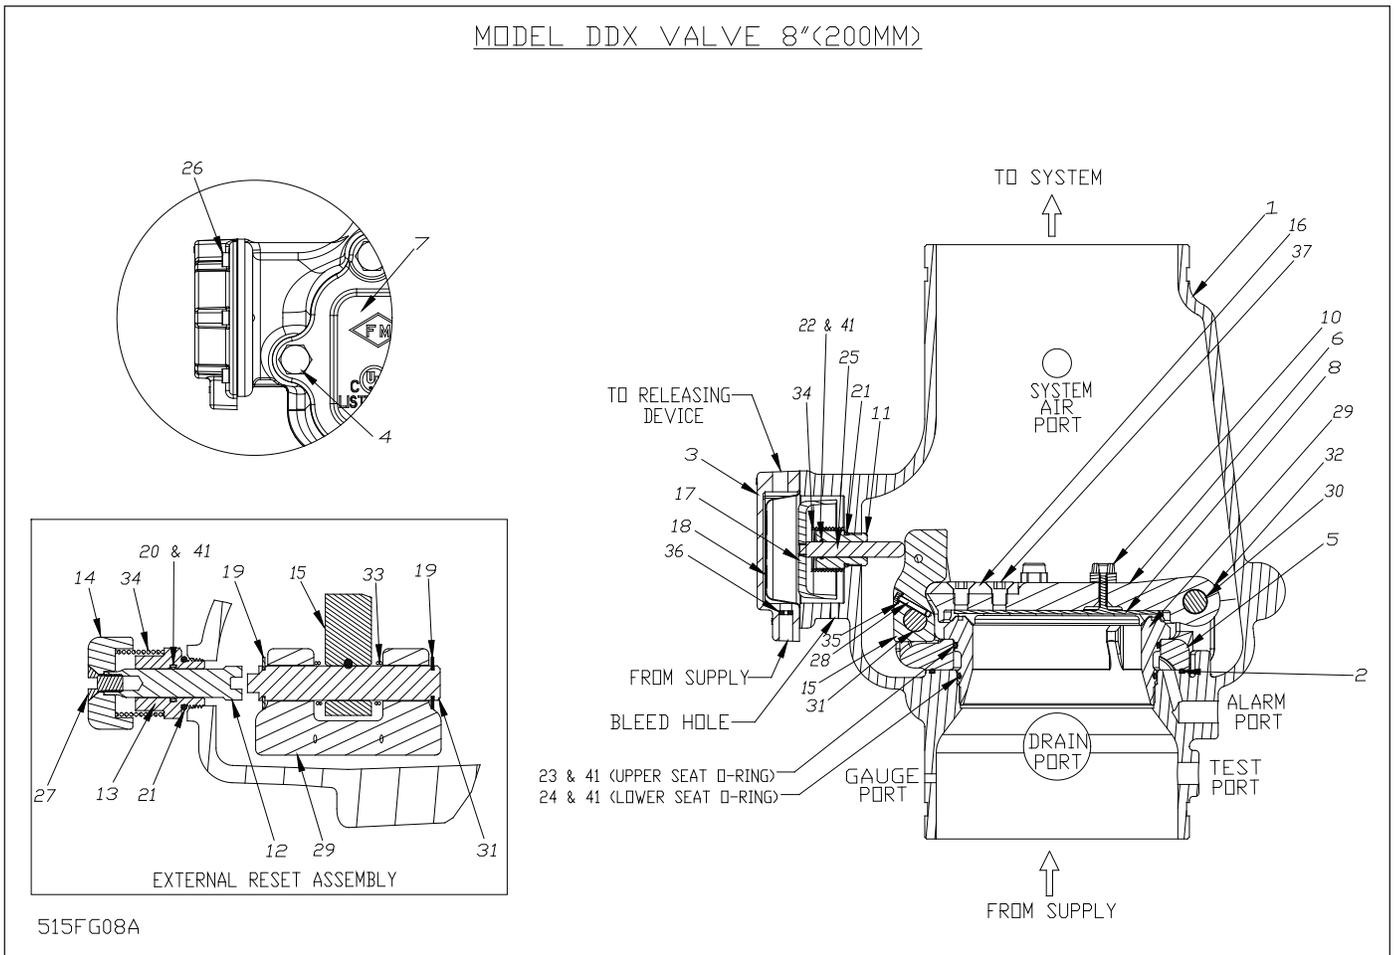
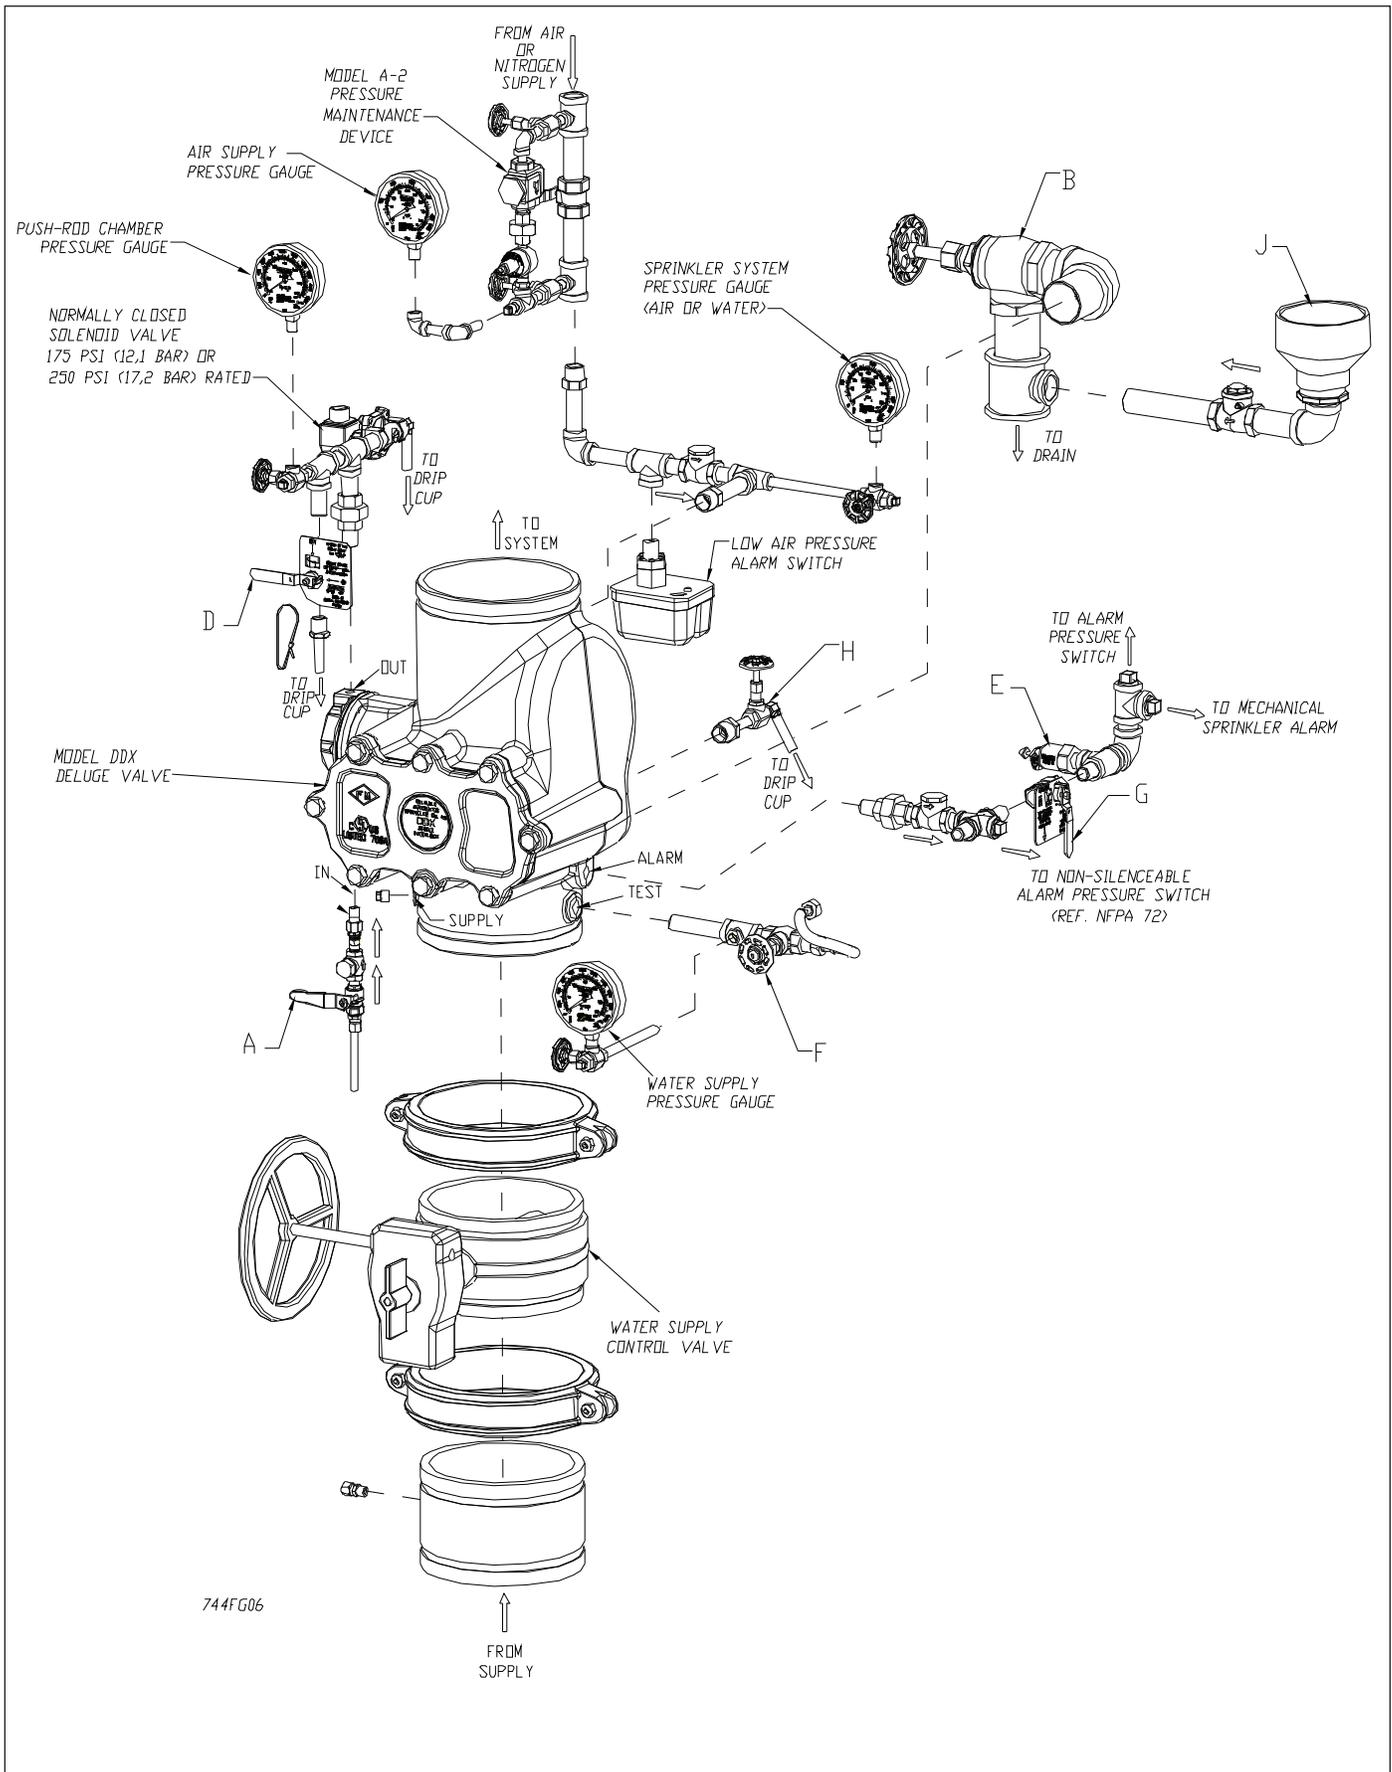

Fig. 5
Fig. 6
6. With the Model B Manual Emergency Station, valve D (Fig. 6), open, push in and rotate the Deluge Valve's external reset knob (#14, Fig. 5) clockwise until you hear a distinct clicking noise, indicating that the clapper has closed. **Note:** The reset knob can be rotated only while pressure in the pushrod chamber is vented to atmospheric conditions (0 psig).
2. **Alarm line** — be sure that valve G (Fig. 6) is opened and remains in this position.
3. **Other trimming valves** — check that valve A (Fig. 6) is open as well as all of the pressure gauge's 1/4" 3-way valves. Valves D, F, and H (Fig. 6) should be closed.
4. **Ball drip valve E (Fig. 6)** — make sure that valve G (Fig. 6) is open. Push in on the plunger to be sure the ball check is off its seat. If no water appears, the Deluge Valve's water seat is tight. Inspect the bleed hole (see Fig. 5) on the underside of the pushrod chamber for leakage.
Model DDX 8" (200mm) Deluge Valves Parts List (Refer to Fig. 5)
6. **Releasing device** — check outlet of the releasing device (i.e., solenoid valve or the Model B Manual Emergency Station, valve D (Fig. 6)) for leakage. Also verify that tubing drain lines from releasing devices are not pinched or crushed which could prevent proper releasing of the Deluge Valve.
7. **Testing alarms** — make sure that valve G is open. Open valve F (Fig. 6) permitting water from the supply to flow to the electric sprinkler alarm switch and to the mechanical sprinkler alarm (water motor). After testing, close this valve securely. Push in on the plunger of ball drip valve E (Fig. 6) until all of the water has drained from the alarm line.
8. **Operational test** — Open the Model B Manual Emergency Station, valve D (Fig.6), or operate by electrical actuation (refer to Bulletin 700, "Special Hazards & Special Systems" for details). Note: An operational test will cause the Deluge Valve to open and flow water into the sprinkler system.
9. Secure Model B Manual Emergency Station, valve D (Fig. 6), in the OFF position with a nylon tie (#57, Fig. 2) after the Deluge Valve is reset.
Refer to Fig. 6
2. Leakage out of the ball drip valve E (Fig. 6).
This condition can be caused by leakage past the system side of the Model DDX Deluge Valve's seal assembly (#8, Fig. 5). Be sure that this surface is free of any type of debris. To eliminate leakage due to a water column, refer to the section in this bulletin marked "Draining Excess/Condensate Water From System". If the problem continues proceed to the following section.
b. Leakage, air or water from the ball drip valve, E (Fig. 6):
If system air is leaking out the ball drip valve, the problem is either damage to the airside of the Model DDX Deluge Valve's seal assembly (#8, Fig. 5), seat (#29, Fig. 5), mounting ring O-ring (#2, Fig. 5), or the upper seat O-ring (#23, Fig. 5). If supply water is leaking out the ball drip valve, the problem could be caused by damage to the Model DDX Deluge Valve's seal assembly (#8, Fig. 5), seat (#29, Fig. 5), or lower seat O-ring (#24, Fig. 5). The following section provides instructions to correct both conditions:
- A. Shut down the valve controlling the water supply to the Deluge Valve and open the 2" main drain valve B (Fig. 6). Open the water column drain valve H (Fig. 6). Close the pushrod chamber supply valve A (Fig. 6) and open the Model B Manual Emergency Station, valve D (Fig. 6).
- B. Remove the Deluge Valve's front (handhold) cover (#7, Fig. 5) and inspect the seat (#29, Fig. 5), clapper (#6, Fig. 5), and seal assembly (#8, Fig. 5) for damage.
If inspection indicates damage to the seal assembly (#8, Fig. 5), replace as follows:
Remove the bumpstop nuts (#10, Fig. 5) and remove the seal assembly (#8, Fig. 5). Install a new seal assembly (#8, Fig. 5) and thread the bumpstop nuts (#10, Fig. 5) onto the threaded stud of the seal assembly (#8, Fig. 5) and tighten finger tight plus ¼ to ½ turn.
If inspection indicates damage to the clapper (#6, Fig. 5) only, then the clapper sub-assembly can be removed as follows:
At the rear of the valve, disconnect the water column drain trim section starting with the elbow connector (#14, Fig. 2). Then remove the 1/4" globe valve (#25, Fig. 2), followed by the 3/4" x 1/4" reducing bushing (#9, Fig. 2). Remove the retaining ring (water column drain line side) from the clapper hinge pin (#30, Fig. 5) and push this pin through the handhold cover and remove the clapper subassembly. Replace the seal assembly (#8, Fig. 5) as described previously. Inspect the clapper (#6, Fig. 5) visually before reinstalling. Reinstall in the reverse order making sure the clapper spacers are in their proper position. If the seat (#29, Fig. 5) is damaged or it is suspected that the leakage is through the lower O-ring (#24, Fig. 5), the seat-clapper subassembly is easily removed as a unit as follows:
Using Reliable P/N 6881608000 Seat Wrench, remove the seat by unscrewing. This will loosen the seat-clapper-mounting ring subassembly. Reach into the valve and grasp the seat and remove it. Then remove the clapper-mounting ring subassembly from the valve. Visually examine all components of the seat and clapper-mounting ring sub-assembly replacing any component that appears damaged. New O-rings (#2, #23 & #24, Fig. 5) should always be used for reassembly.
Clean the bore of the valve body. Lubricate the bore with O-ring grease. Lubricate and install the O-rings (#23 & #24, Fig. 5) onto the seat and O-ring (#2, Fig. 5) into the body (#1, Fig. 5). Insert the clapper-mounting ring sub-assembly into the handhold opening of the Deluge Valve. Align the mounting ring so that the Lever (#15, Fig. 5) is near the pushrod (#25, Fig. 5) and the mounting ring (#5, Fig. 5) "ears" are between the tabs of the valve body (#1, Fig. 5). Insert the seat (#29, Fig. 5) into the valve body (#1, Fig. 5) and through the clapper-mounting ring assembly. Start to tread the seat (#29, Fig. 5) into the body by hand, then tighten until the seat (#29, Fig. 5) with seat wrench 6881608000 until it bottoms out on the mounting ring (#5, Fig. 5). Verify that the seat-clapper-mounting ring subassembly is in the fully down position between the tabs of the body, and check to see that the lever (#15, Fig. 5) lines up with the push rod (#25, Fig. 5). Loosen and reassemble if necessary. Reassemble the handhold cover (#7, Fig. 5) and set up the Model DDX Deluge Valve as per the section "Resetting Model DDX Deluge Valve Systems."
A small bleed hole is located on the underside of the push rod chamber (see Fig. 5). If there is air or water leakage coming out of this hole, do the following:
- a. Shut down the valve controlling water supply to the Deluge Valve. Relieve the inlet pressure by opening the main drain valve B (Fig. 6). Close the valve A (Fig. 6) that supplies water to the pushrod chamber, and open the Model B Manual Emergency Station, valve D (Fig. 6).
- b. Remove the trim at the unions nearest to the pushrod chamber cover (#3, Fig. 5)
- c. Take the push rod chamber cover (#3, Fig. 5) off by removing the six retaining screws (#26, Fig. 5).
Water coming out of the bleed hole is caused by a leaking diaphragm (#18, Fig. 5). Visually inspect the pushrod chamber cover (#3, Fig. 5) and piston (#17, Fig. 5) to determine what could have damaged the diaphragm and correct. Install a new diaphragm.
Roll the diaphragm so that the smooth surface (the pressure side) conforms to the inside of the push rod chamber cover and reassemble the six retaining screws (#26, (Fig. 5) with an installation torque of 15 foot-pounds. Set up the Model DDX Deluge Valve as per the section "Resetting the Type D Double Interlock Preaction System"
System air coming out of the bleed hole is caused by a defective O-ring assembled to the push rod guide (#11, Fig. 5). Remove the piston-push rod subassembly, push rod spring (#34, Fig. 5), and push rod guide (#11, Fig. 5). Verify by hand turning, that the push rod cannot be unscrewed from the piston. Replace all O-rings and the push rod guide (#11, #21 & #22, Fig. 5). The correct installation torque for the push rod guide is 35 inch-pounds.
CAUTION: Do not over-tighten the push rod guide. Reassemble the components that were initially removed. Re-install the diaphragm (#18, Fig. 5) if it appears to be in good shape, otherwise, replace it also.